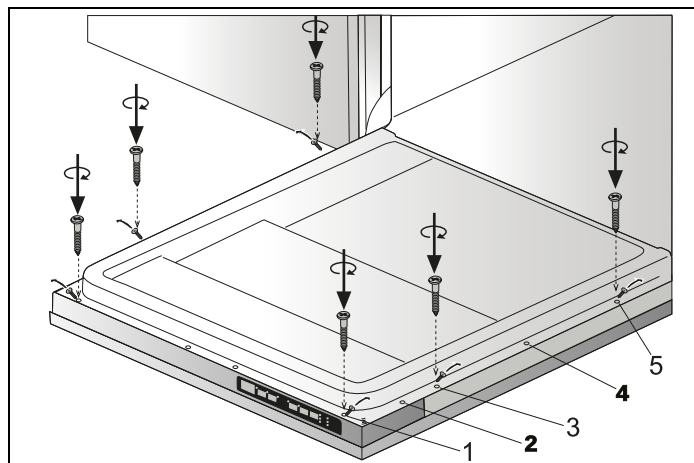

Fig. 28
- 6) The screws located on the wooden door are fitted to the dishwasher at the discharges located on the door outer sheet and are assembled as shown in Fig. 28 .
- 8) As shown in Fig. 28 , Screws $\varnothing 5/32"$ x $53/32"$ ($\varnothing 4\text{mm}$ x 42.5mm) are installed in positions I, III and V.